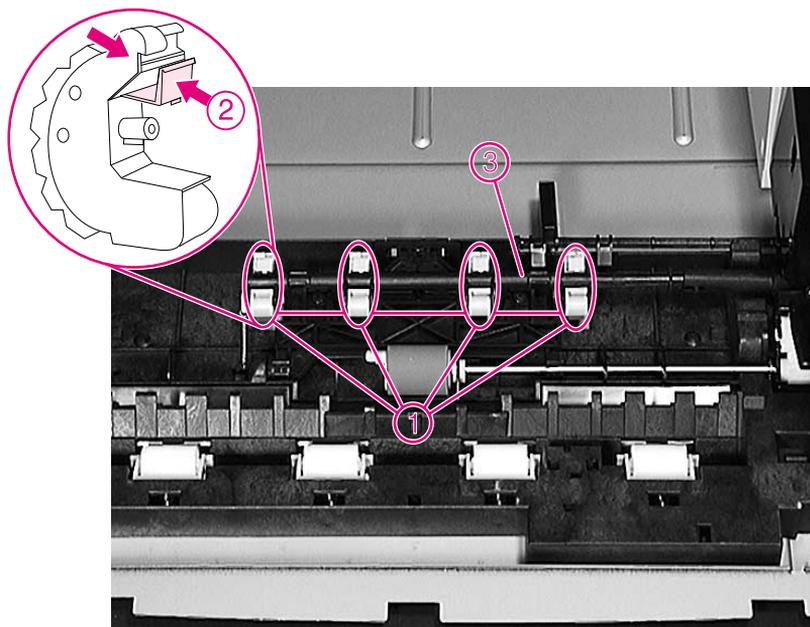

Figure 13
- 1 With one hand, rotate the pickup roller shaft (Figure 13, item 3) 90 degrees.
- 2 With the other hand, press the locking tab (item 2) on each roller (item 1) and push the roller back slightly from its secured position.